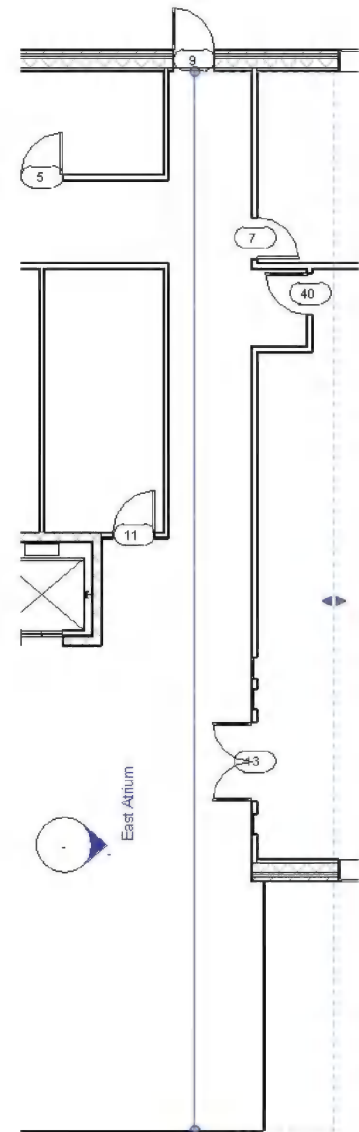

FIGURE 8-3.4 Elevation tag
9. Adjust the control lines for the elevation tag as shown in Figure 8-3.4. Drag the “cutting plane/extent of view” line to the location shown. Make sure the “far clip plane” extends past the door alcove, otherwise it will not show up.